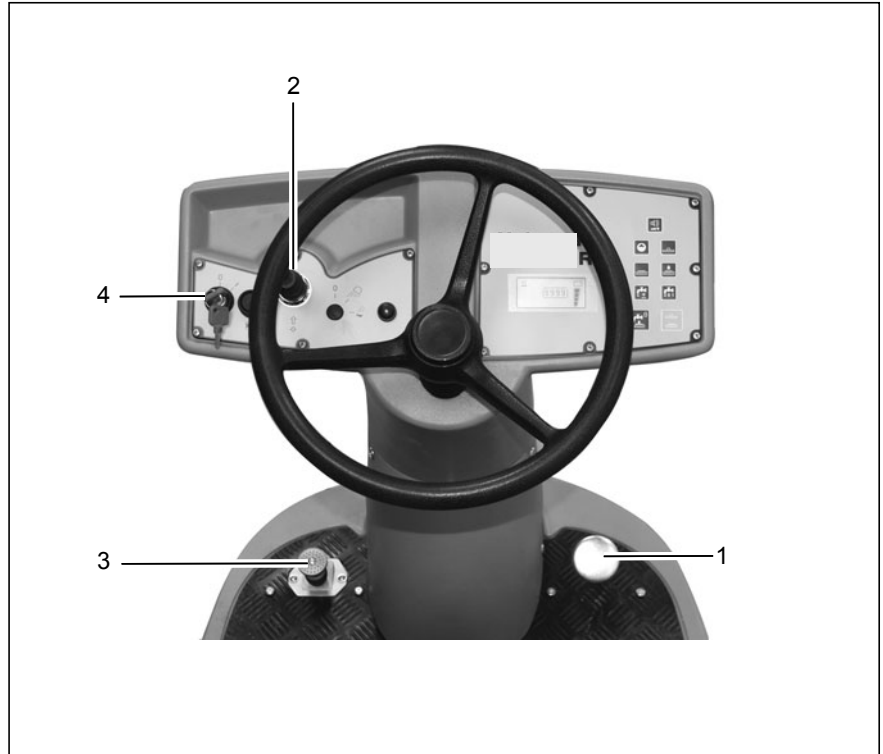

Fig.15
1. Release the accelerator (Fig. 15/1) slowly to its zero position. The vehicle slows until it eventually stops. You can decelerate more quickly by applying the vehicle's brake (Fig. 15/3).
2. Move the driving direction selector switch (Fig. 15/2) to its zero position.
4. Switch the vehicle off with the key switch (Fig. 15/4).